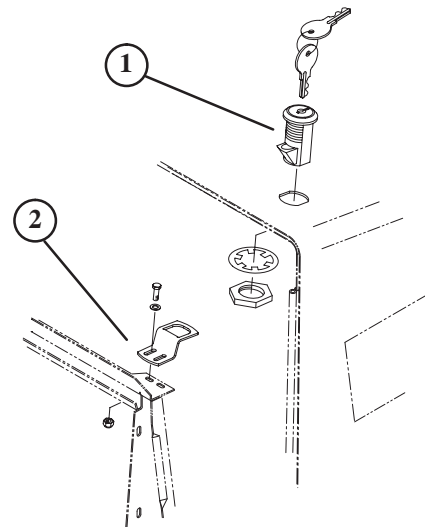

Figure 3
- Mount locking switch to hood with lock washer and nut. Position switch with latch toward front of machine (Fig. 3).
- Loosely mount latch bracket to radiator support with 2 cap screws (1/4 x 3/4 in.), flat washers, and locknuts (Fig. 3).